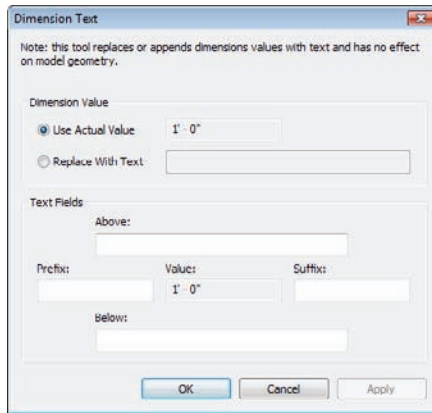

FIGURE 5.42 The Dimension Text dialog box
2. Notice that the text turns blue. As you know, blue means that this item is editable in Revit. Pick the text. You should see a dialog box like the one in Figure 5.42.